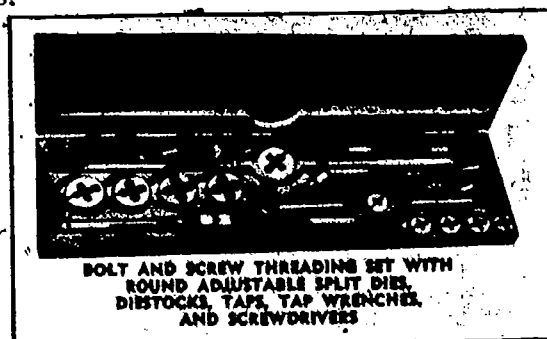

Fig 1-7. Pipe and bolt and screw threading sets.
d. Threading tools (fig 1-7). There are two different sets of taps and dies: one set is for cutting bolt and screw threads and the other set is for cutting pipe threads. A tap cuts internal threads and a die cuts external threads. The bolt and screw set have the tools to cut national coarse (NC) and national fine (NF) threads. The NC and NF mean that there are a specific number of threads per inch in relation to the bolt or screw diameter. For example, an NC bolt 5/8 in. in diameter will have 11 threads per inch while a 5/8 in. NF bolt will have 18 threads per inch. A bolt with NF threads must have NF threads to screw into; it cannot be used with the coarse threads without damaging one or possibly both sets of threads.